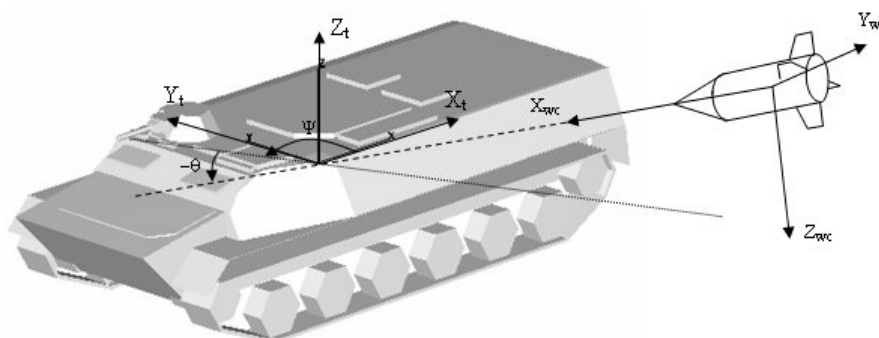

Figure 4 The target/warhead carrier coordinate system
The firing direction when generating hit points from the Case and Single Shot dialogue boxes is specified in relation to the target coordinate system by two angles, Figure 4:
- Psi (ψ): the rotation angle for warhead carrier around targets z-axis, see Figure 4. The angle is measured from targets positive x-axis. A positive ψ -value means rotation counter clockwise around targets z-axis. If the ψ -value is zero the x-axis for both target and warhead carrier are aligned, but the y- and z-axis are pointing in opposite directions.
- Theta (Θ): the rotation around rotated y-axis for the warhead carrier, see Figure 4. The angle is measured from the xy-plane of the target coordinate system. OBSERVE: A positive Θ -angle means attacking target from below and negative Θ -angle from above.